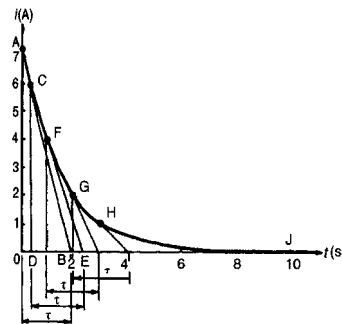

Figure 18.13
- With reference to Fig. 18.13, the initial slope is obtained by making OB equal to 1 time constant, (i.e. 2 s), and joining AB